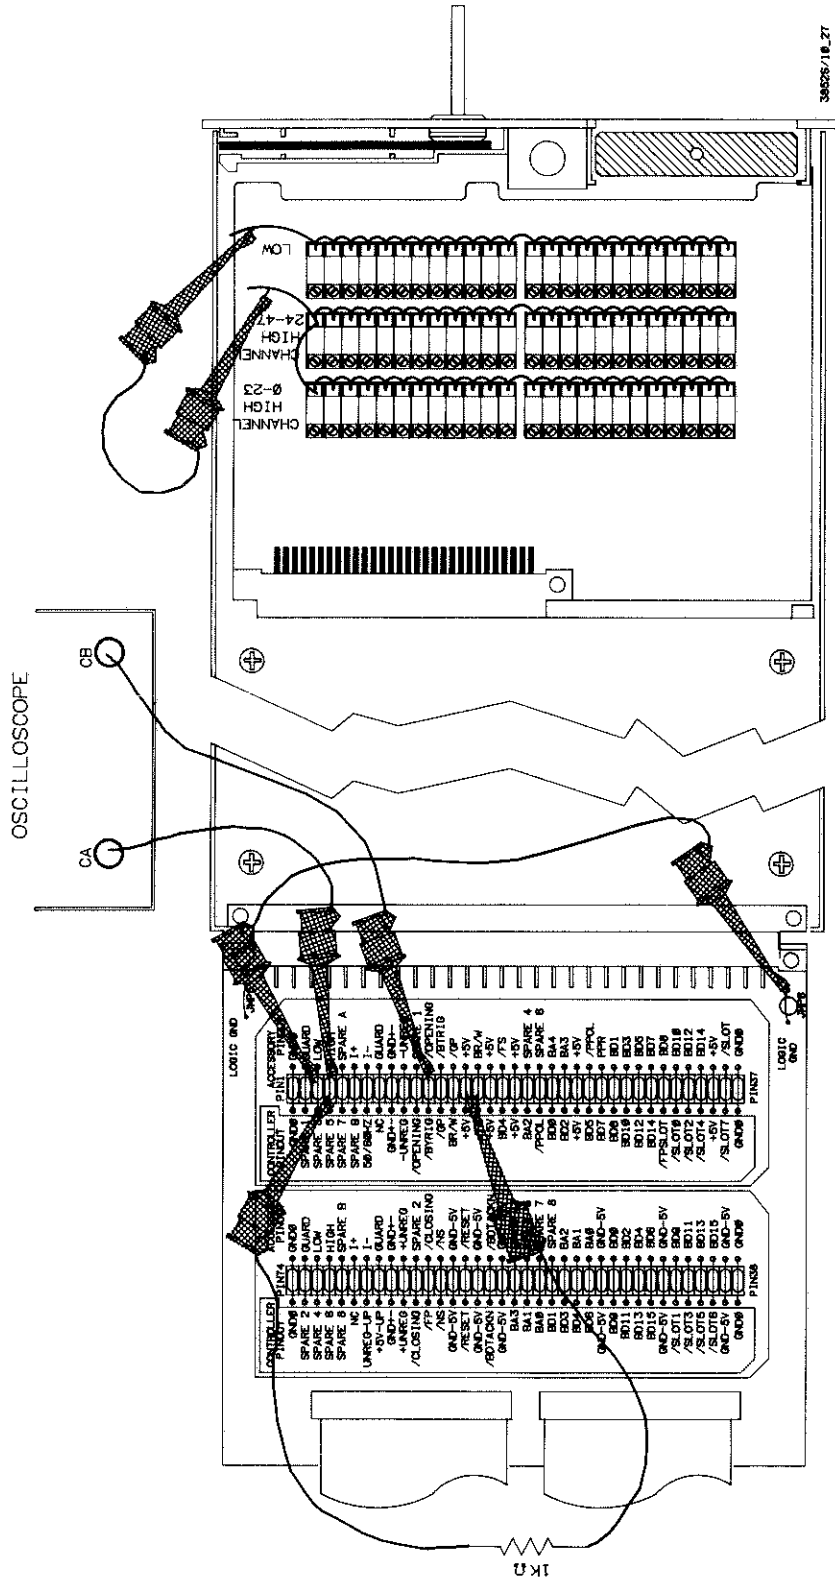

Figure 10-27 HP 44712A Opening Time Set-Up
1. Remove power from the HP 3852A and unplug the multiplexer to be tested. Install the Service Module in a convenient slot in the HP 3852A. Note the slot number where the Service Module is installed. Install the multiplexer on the service module. Install the test fixture on the multiplexer. The Set-Up Procedure is depicted in Figure 10-27.